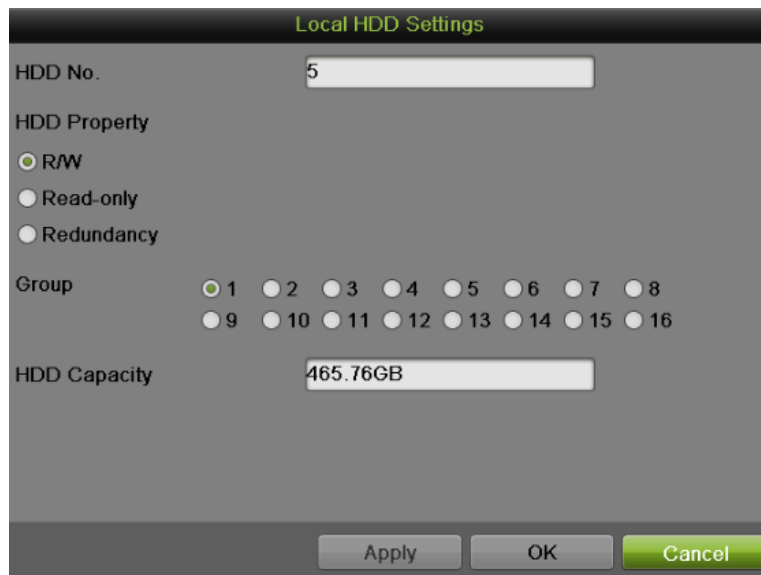

Figure 133 Local HDD Settings
- 1) Select a HDD and click  to pop up the Local HDD Settings menu as shown in Figure 133.